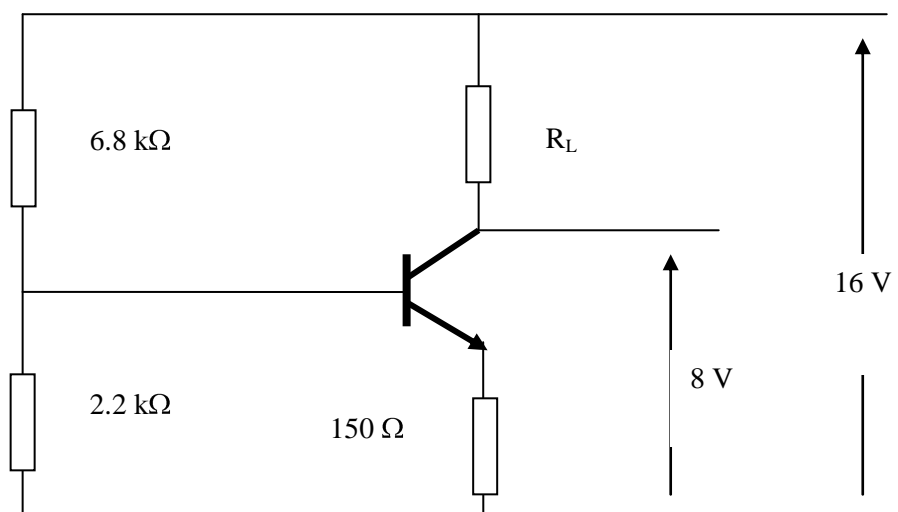

Fig Q3
- the current in the non-linear resistor; (8)
- the effective resistance of the non-linear resistor; (4)
- the current in the  $40\text{ k}\Omega$  resistor. (4)
3. Fig Q3 shows a single stage transistor amplifier. The voltage between base and emitter is  $0.3\text{ V}$  and the d.c. voltage at the output terminals is  $8\text{ V}$ .
- the voltage between emitter and collector; (6)
- the power developed in the  $150\text{ }\Omega$  resistor; (5)
- the power dissipated in the transistor. (2)
- Sketch the circuit diagram and show the additional components needed to make the amplifier suitable for amplifying small a.c. signals. (3)